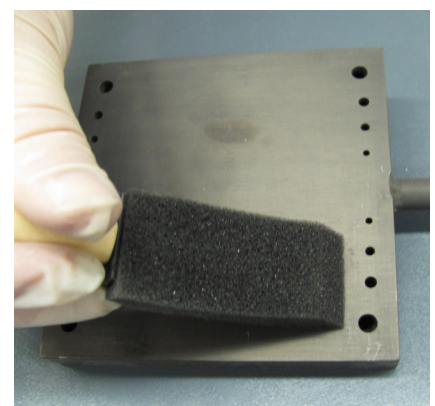

Figure 20
13. Apply approximately 2 grams of LSM ink in a thin even coat on the active area of the cathode manifold (Figure 20). Do not apply ink to the gas ports.